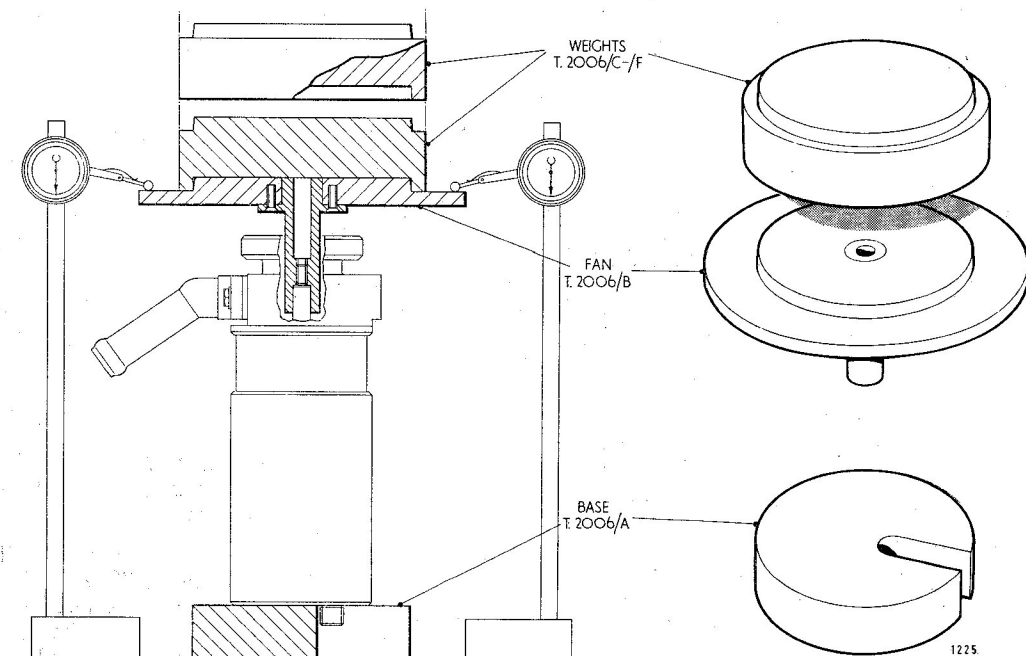

Fig. 7. Shaft end-loading tools
(2) Position three thrust washers (38) on this special thrust ring, fit a top cover (40) and retain with the circlip (41).
(3) Invert the pump assembly, standing on the block T.2006/A to give clearance to the electrical conduit union on the top cover.
(4) Screw the fan T.2006/B on to the impeller thread of the motor shaft. Arrange two dial gauges diametrically opposite to one another as illustrated in fig. 7, so that they register near the outer edge of the fan.
(5) Zero the dial gauges. Use the weights T.2006/C/D/E/F in combination to apply a load of 32-34 lb. to the face of the fan and check the true axial movement under this load (indicated by identical deflection of both dial gauges). The required axial movement is 0.002 in./0.003 in.
(6) Let the true axial movement obtained using the special thrust ring (sub-para. 1) be X. Then to obtain the required 0.002 in./0.003 in. axial movement a thrust ring (37) should be machined to a thickness equal to A in. + (X - 0.0025 in.). Where A is the actual thickness of the special thrust ring.